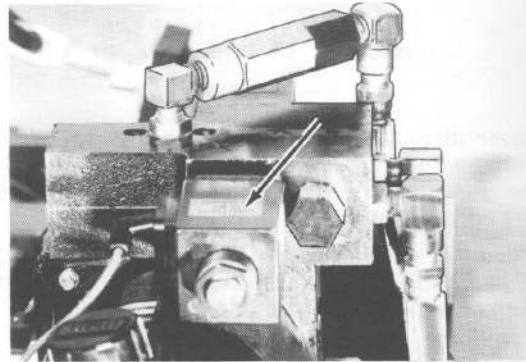

Figure 1-7
1. Hold the metal end of a screwdriver about one inch from the solenoid coil being tested. See Figure 1-7.